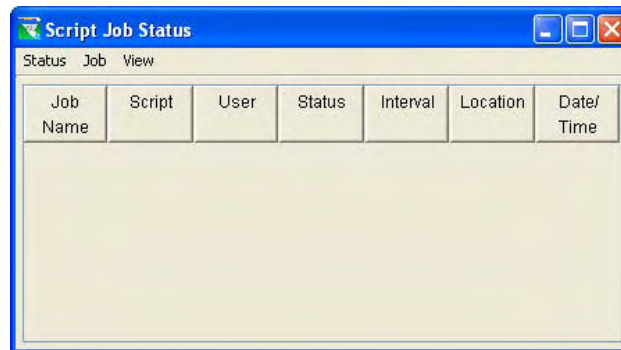

Figure 14.83 Script Job Status
7. The **Status** option from the **Script** menu checks the status of an automatically scheduled script. Figure 14.83 illustrates an overview of the type of information being provided by the Status option.